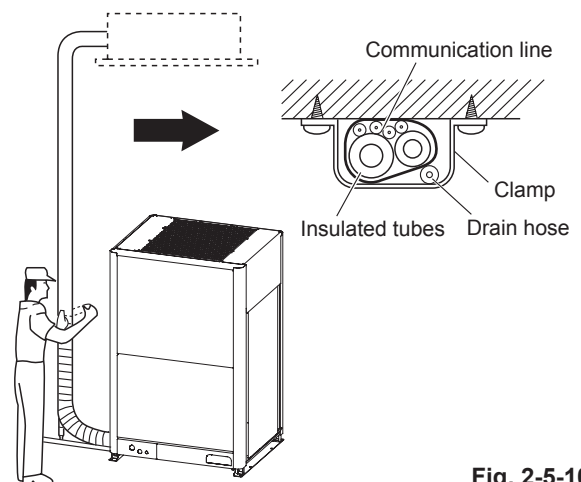

Fig. 2-5-10
- (1) At this time, the refrigerant tubes (and electrical wiring if local codes permit) should be taped together with armoring tape in 1 bundle. To prevent the condensation from overflowing the drain pan, keep the drain hose separate from the refrigerant tubing.
- (2) Wrap the armoring tape from the bottom of the outdoor unit to the top of the tubing where it enters the wall. As you wrap the tubing, overlap half of each previous tape turn.
- (3) Clamp the tubing bundle to the wall, using 1 clamp approx. each meter. (Fig. 2-5-10)